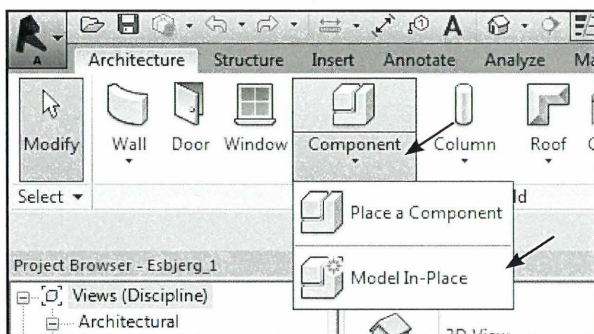

Fig. 04.115. Model In Place.
- Klik *Architecture - Component - Model In Place* (Fig. 04.115).